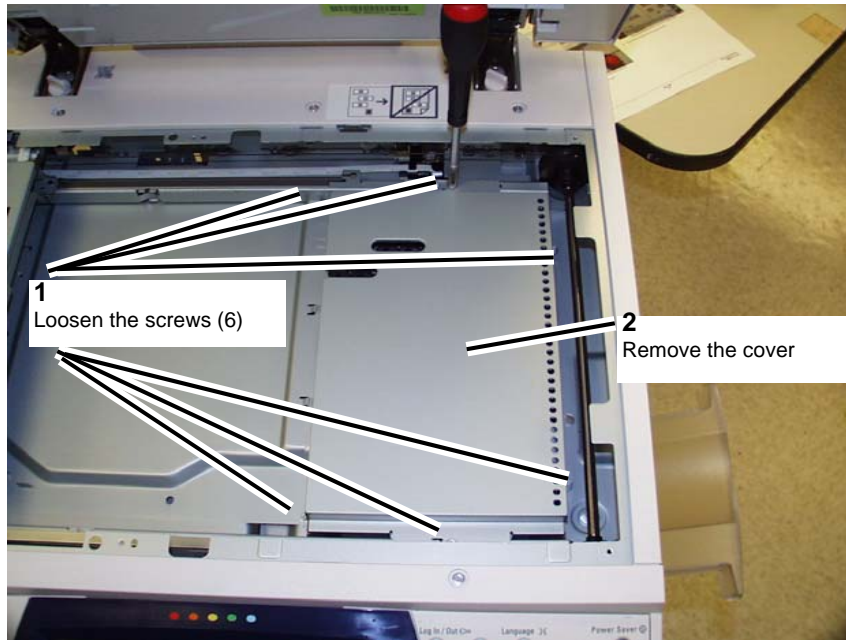

Figure 1 Removing Lens Cover
3. Remove the Lens Cover. (Figure 1)